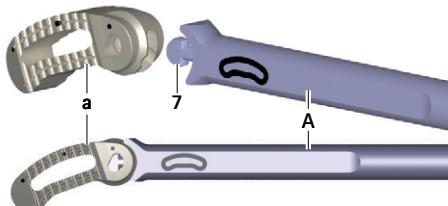

Fig. 7 Coupling the implant to the insertion instrument
- ▶ Mount the implant a in the protective packaging onto the dihedron 7 of the insertion instrument A, see Fig. 7. When doing so, pay attention to the orientation of the implant (orientation according to the marking on the insertion instrument).
- ▶ Couple insertion instrument A to implant a in situ, see Fig. 7.